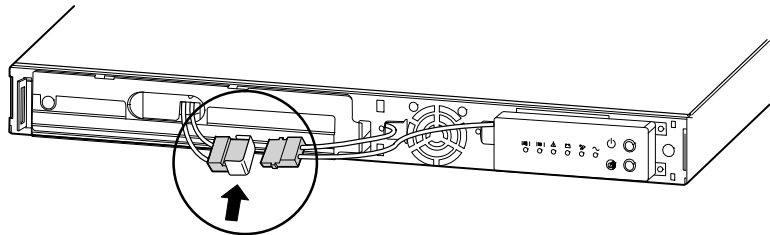

Figure 3. Removing the Protective Label
3. Remove the protective label from the internal battery connector (see Figure 3).